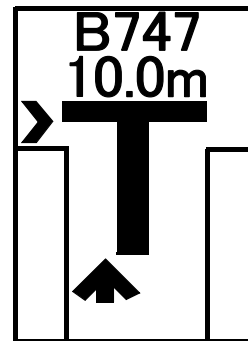
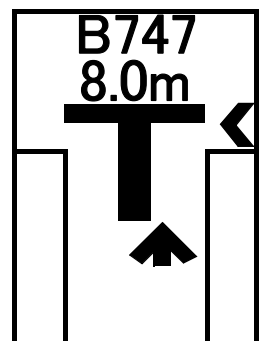

Fig.7
Fig.8
- (2) Deviation of an upward yellow arrow from the center line of "T" indicates the deviation of the approaching aircraft relative to the center line of the parking stand either to right or left. Further, an additional flashing red arrow on either side indicates the required direction for the aircraft to turn. This flashing red arrow is not indicated between 2 and 0 meter point from the stopping position, even if the aircraft shifts from the center line. (Fig.7, Fig.8)